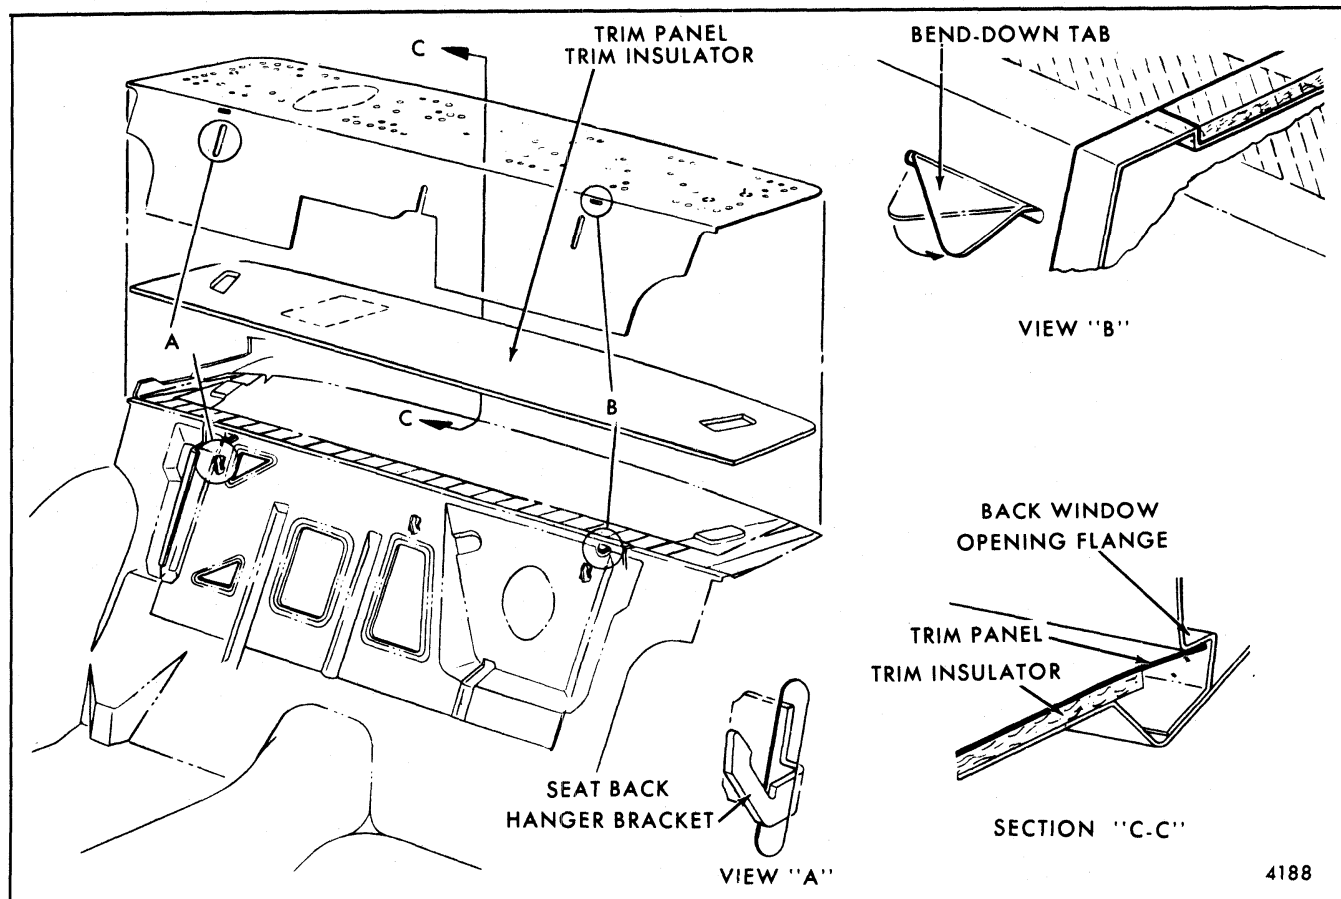

Fig. 9-83-Rear Seat-to-Back Window Trim Panel and Insulator - Typical "H-11" Styles
Refer to appropriate illustration - Figure 9-83, 9-84 or 9- 85.
5. Carefully bend out tabs shown in View "B", Figure 9-83, and pull front of trim panel forward sufficiently to clear seat back hanger brackets (see View "A", Fig. 9-83); then lift trim panel upward and forward to disengage rear edge of foundation from under back window flange (see Section "C-C", Fig. 9-83) and remove trim panel.